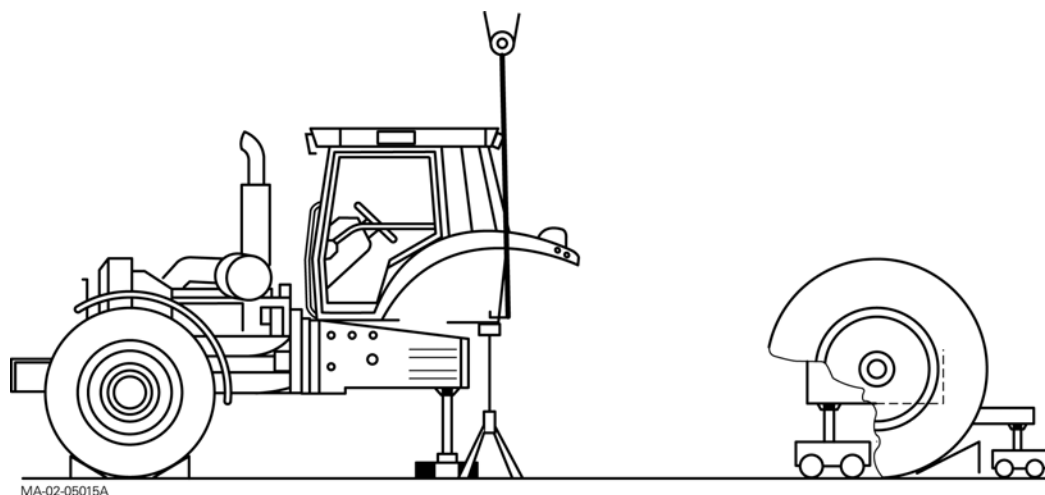

Fig. 5
20. Install (Fig. 5):
25. Assisted by an operator, separate the assemblies (Fig. 5).
26. Hold the cab still using suitable axle stands positioned under the right and left-hand supports (Fig. 5).